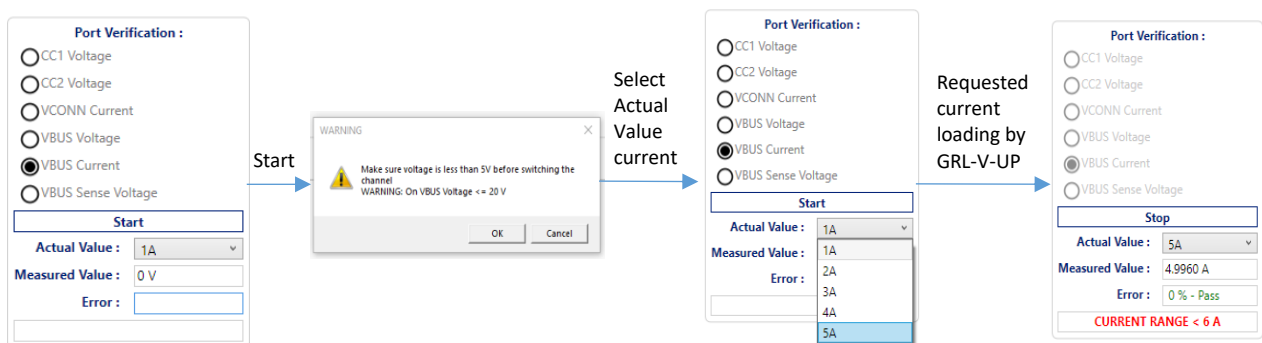

FIGURE 4.10: VBUS CURRENT CHANNEL VERIFICATION
2. See Figure 4.10 for the following procedure: